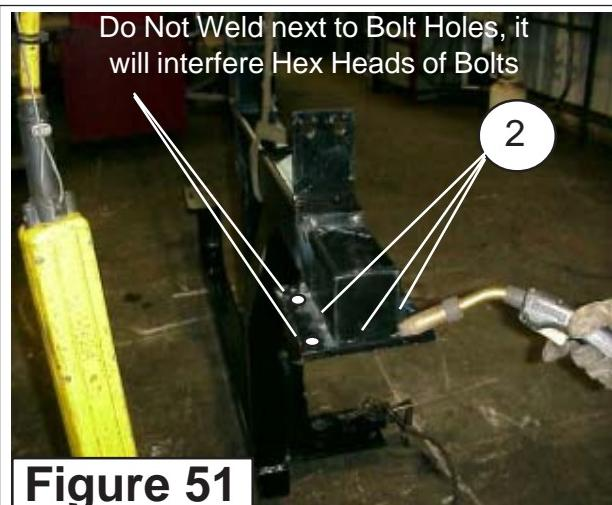

Figure 51
2. Weld Front Mount Plate. Weld down each side between Bolt Holes. Do not Weld to where the Weld will interfere with the Hex Head of Bolts when they are installed. Also weld across the Front of the Mounting Pad. (**See Figure 51, 55 & 56**)